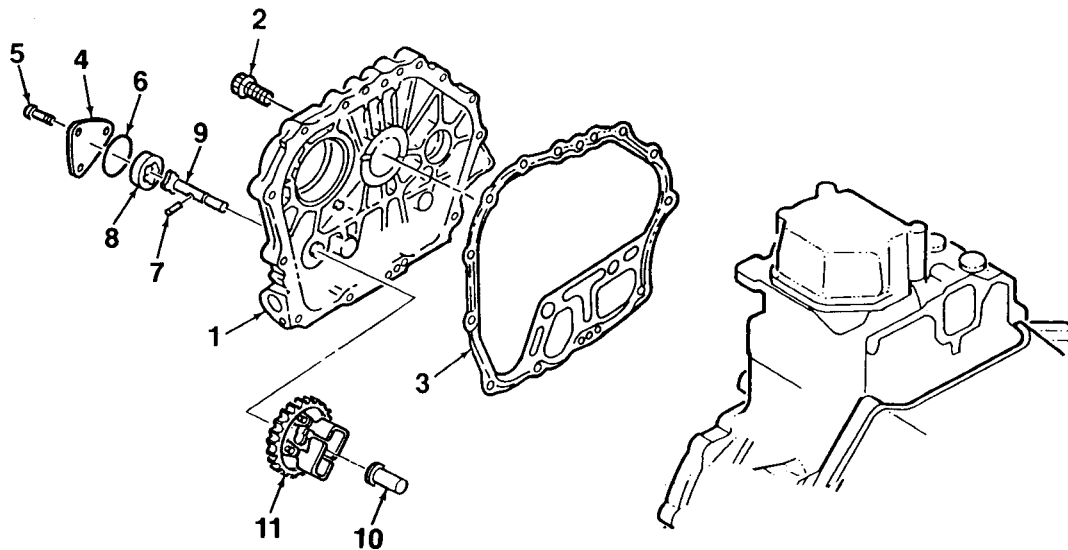

Figure 4-9. Oil Pump Removal
1. Release crankcase cover (1, Figure 4-9) from cylinder block by removing fifteen screws (2). Carefully separate crankcase cover from engine crankcase.
2. Remove cover gasket (3). Discard if damaged or deformed.
3. Remove oil pump cover (4) from crankcase cover (1) by removing three screws (5). Remove and discard O-ring (6).
4. Remove parallel pin (7) and slide oil pump (9) out of crankcase cover (1). Remove outer rotor (8). Remove and discard governor assembly (11) and pin (10).
1. Inspect crankcase cover (1, Figure 4-9) for cracks, deformation, or obvious damage. Inspect mating surfaces for scratches, burrs, or blemishes. Replace cover if damaged.
2. Inspect cover gasket (3) for damage or deformation. Replace if damaged in any way.
3. Inspect outer rotor (8) and inner rotor portion of oil pump (9) for signs of excessive or uneven wear. Fit inner rotor into outer rotor and measure gap at various points. Gap between inner and outer rotors must not exceed 0.0098 inch (0.25 mm). Replace outer rotor (8) and oil pump (9) as an assembly if excessively worn, damaged, or out of limits.
4. Measure the outside diameter (OD) of outer rotor (8). OD must be 1.1378 inches (28.90 mm), minimum. Replace outer rotor (8) and oil pump (9) as an assembly if out of limits.
5. Measure the internal diameter (ID) of outer rotor port in crankcase cover (1). ID must not exceed 1.1488 inches (29.18 mm). Replace crankcase cover (1) if out of limits.